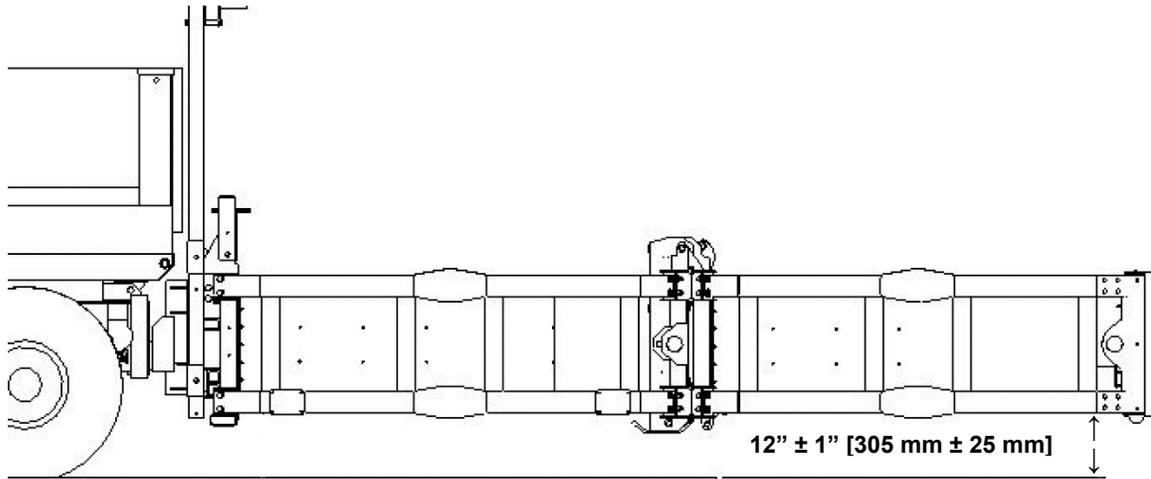

Figure 3
1. The SS180[®] M shall be rigidly fastened to the truck. In the horizontal position, the bottom of the TMA shall be 11" to 13" [280 to 330 mm] from the ground to the bottom of the Rear Impact Face (Figure 3).